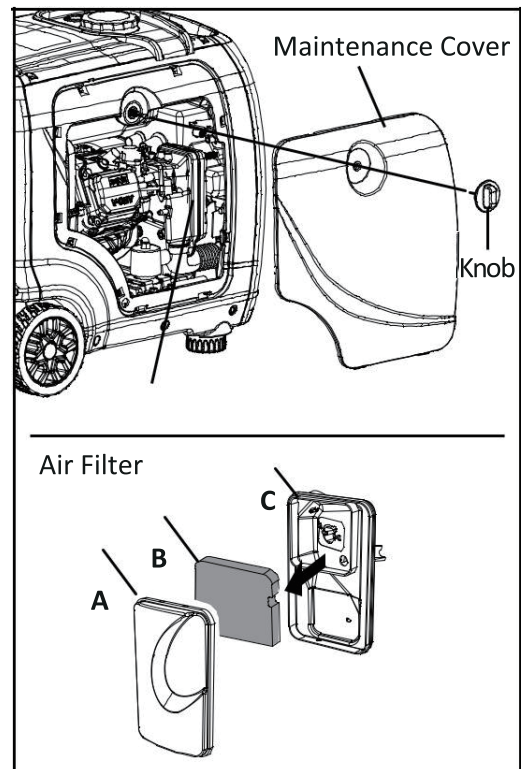

Fig. 19
2. Take the cover off of the air cleaner (Fig. 19). Remove the sponge-like air filter element from the casing. Wipe excessive oil and any dirt from inside of the air filter casing.
1. Unscrew the maintenance cover knob, and remove the cover from the side panel (Fig. 19).